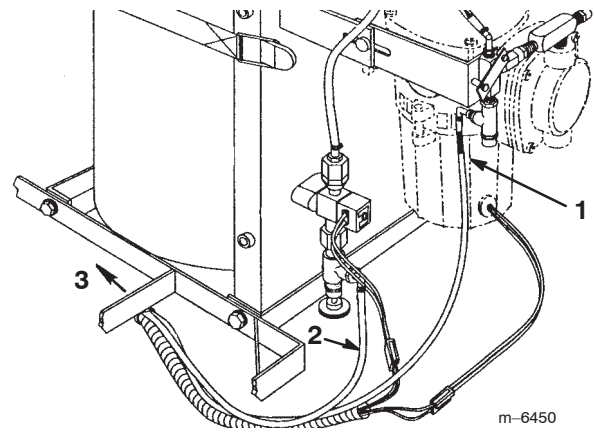

Figure 33
13. Mark a 108 inch supply hose with a black marker at each end (Fig. 33).
14. Connect the marked supply hose to the hose barb at the compressor and the other supply hose to the hose barb on the needle valve (Fig. 33).
15. Secure the hose ends with small hose clamps (Fig. 33).